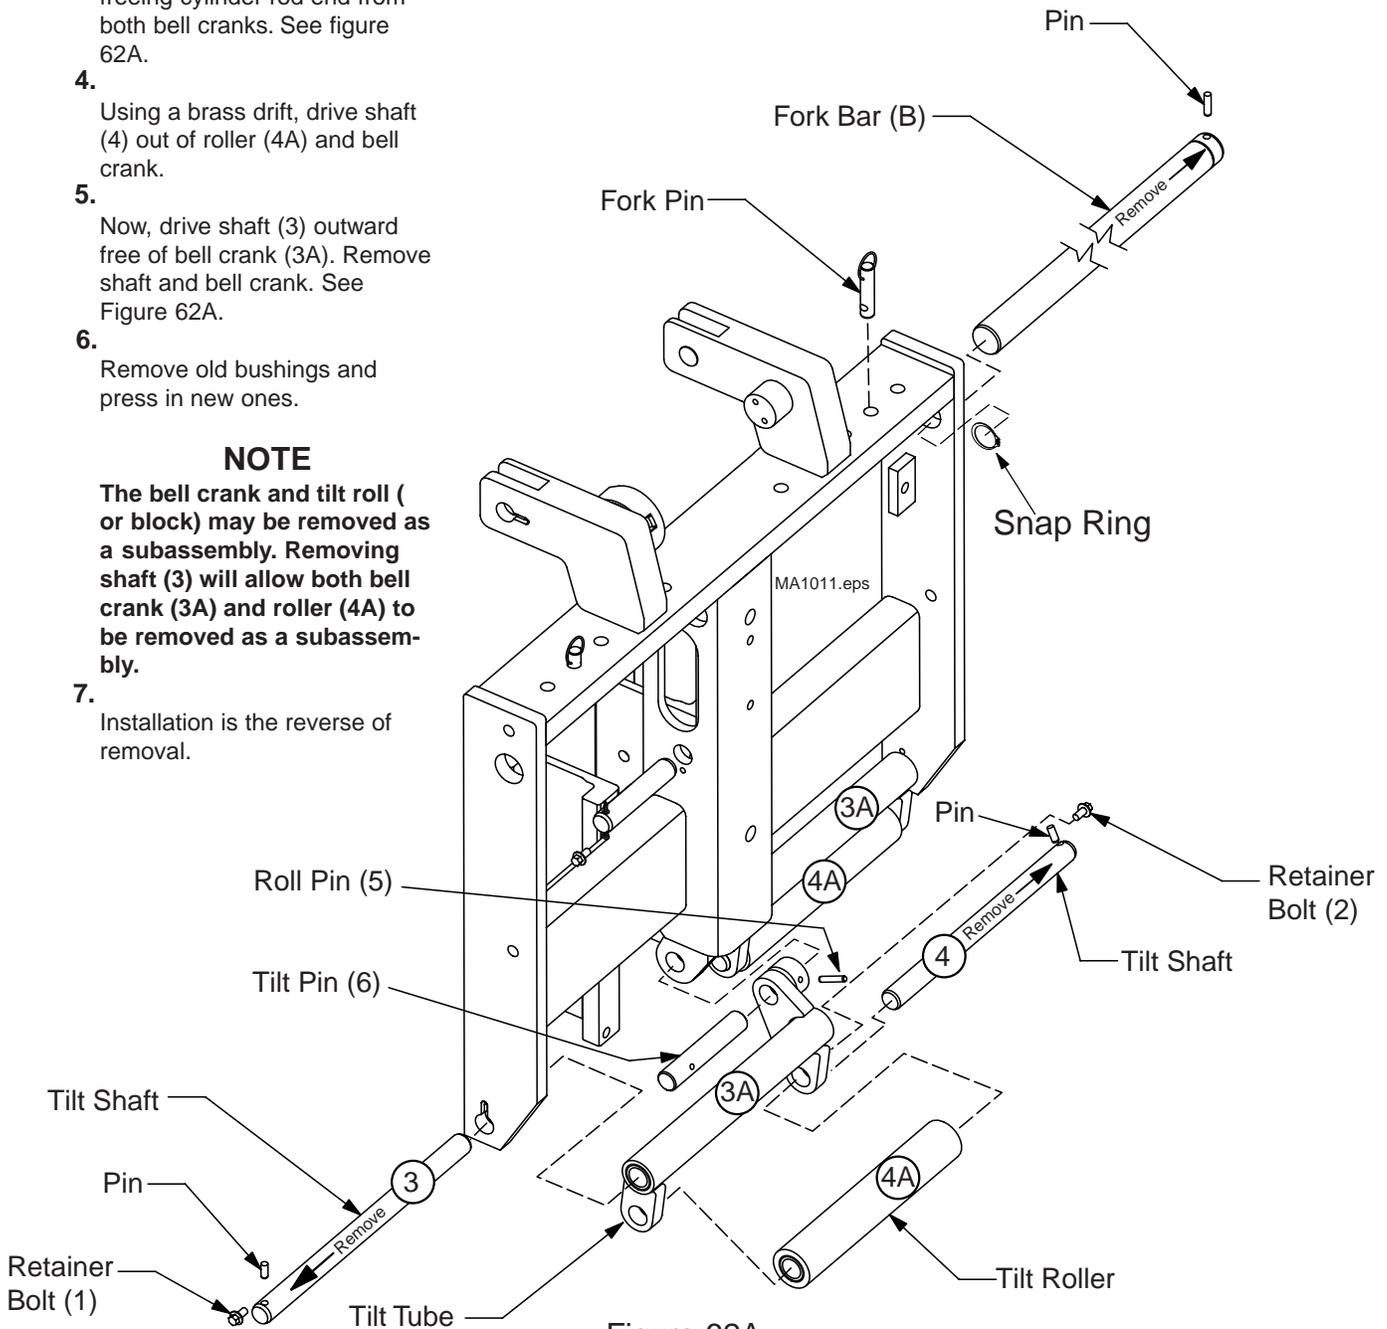

Figure 62A
1. Remove retainer bolt (1 and 2) securing pivot shafts (3 and 4) in position. See figure 62A.
2. Remove roll pin (5) from Tilt Cylinder Rod End Mounting Shaft. See figure 62A.
3. Using a brass drift, drive shaft (6) out of each bell crank (3A) freeing cylinder rod end from both bell cranks. See figure 62A.
4. Using a brass drift, drive shaft (4) out of roller (4A) and bell crank.
5. Now, drive shaft (3) outward free of bell crank (3A). Remove shaft and bell crank. See Figure 62A.